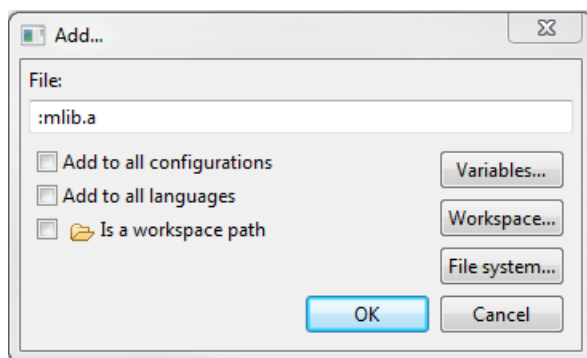

Figure 1-21. Library file inclusion
11. Type the following into the File text box (see Figure 1-21): :mlib.a